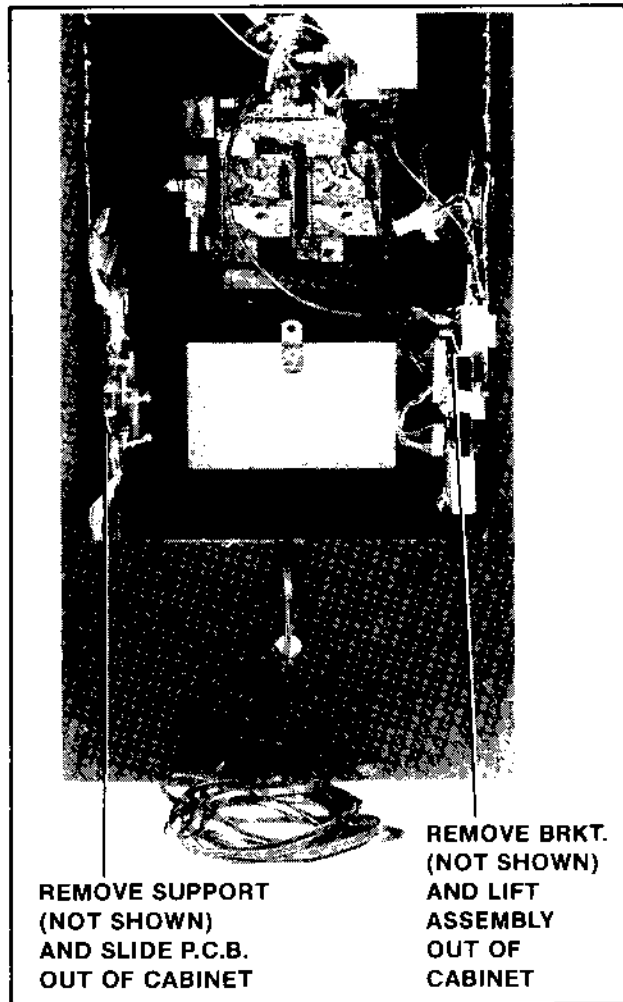

Figure 4-13 Replacing P.C.B.s — Mini
2. MINI MODEL: See Figure 4-13.
- Disconnect the power supply board from all its cabling, remove the P.C.B. supports indicated in Figure 4-13, and slide it out the back of the cabinet.